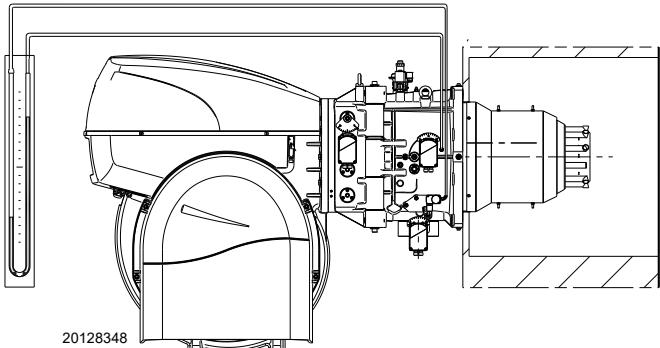

Fig. 28
- Fit a U-type pressure gauge or a differential pressure gauge (Fig. 28), with socket (+) on the gas pressure of the pipe coupling and (-) in the combustion chamber.
The arrival of gas at the sleeve is indicated by the U-type manometer (Fig. 28).